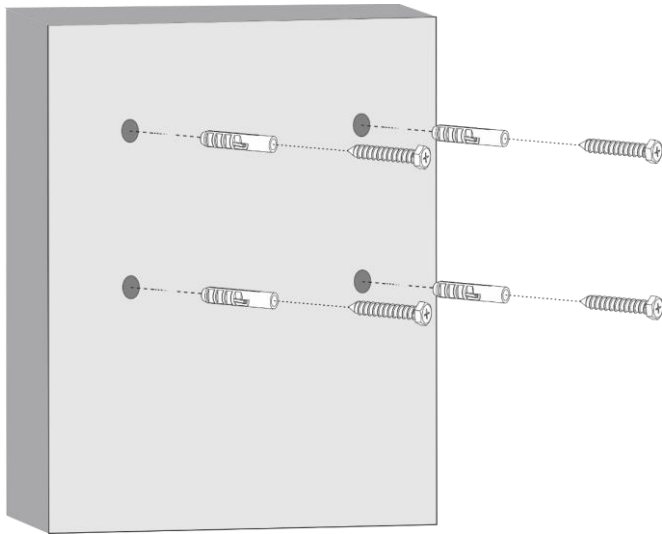

Fig. 20
- 05) Install the correct anchors and screws, as shown in Fig. 20.